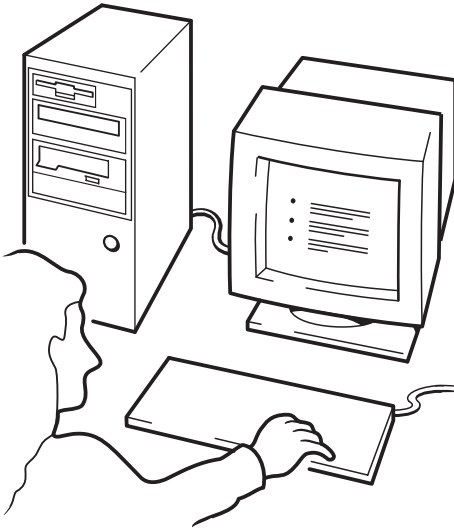

Figure 12c: using HP OBDR, step 3
- 3 Follow the on-screen instructions to set up the operating system (see Figure 12c). These will vary depending upon the backup software. Normally, you can accept the default response to all the prompts, for example, just press <Enter>.